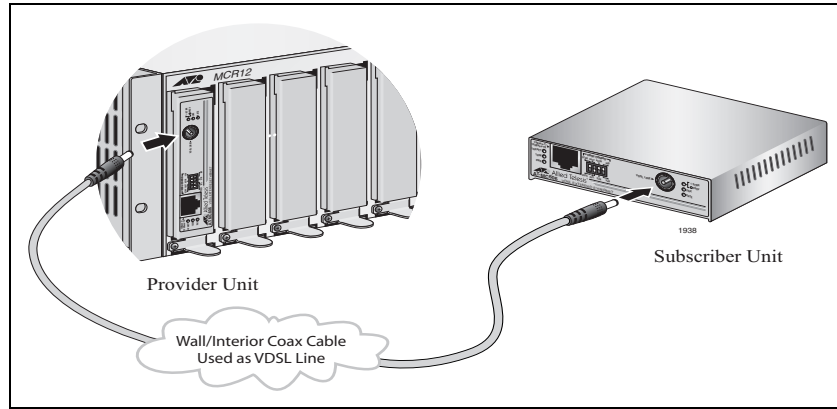

Figure 10. VDSL Line to Wall/Interior Coaxial Cable
2. Connect a coaxial cable from the VDSL Line port to the wall/interior coaxial cable, as shown in Figure 10, so that the Subscriber unit can communicate with the Provider unit.
2. Connect a coaxial cable from the VDSL Line port to the wall/interior coaxial cable, as shown in Figure 10 on page 36, so that the Provider unit can communicate with the Subscriber unit.